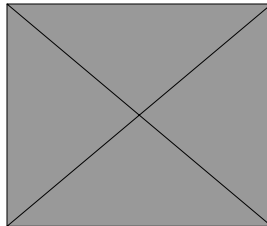
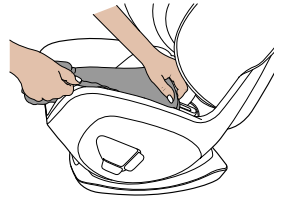

Figure 13
Figure 14
Step 1. Thread side of trim into channel ensuring a firm fit (Figure 13). Firmly push end under plastic bridge (Figure 14).